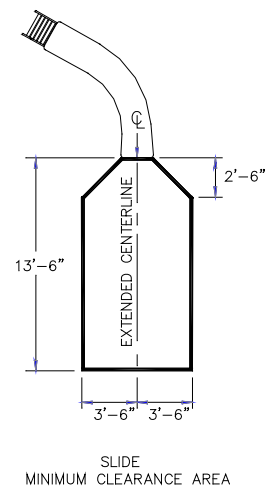

FIG. 3
- A. The minimum clearance distance on either side of the extended centerline of the slide runway shall not be less than three feet six inches (3'-6") at a point no less than two feet six inches (2'-6") from the exit lip of the slide and extending a distance of thirteen feet six inches (13'-6") in front of the slide as shown in **FIG. 3.**
See Article 5 contained in ANSI/APSP/ICC-5 2011 STANDARD FOR RESIDENTIAL INGROUND SWIMMING POOLS and refer to FIGURE 3 and Table 1 for Minimum Water Envelope Dimensions AB, BC and Width at Point C.